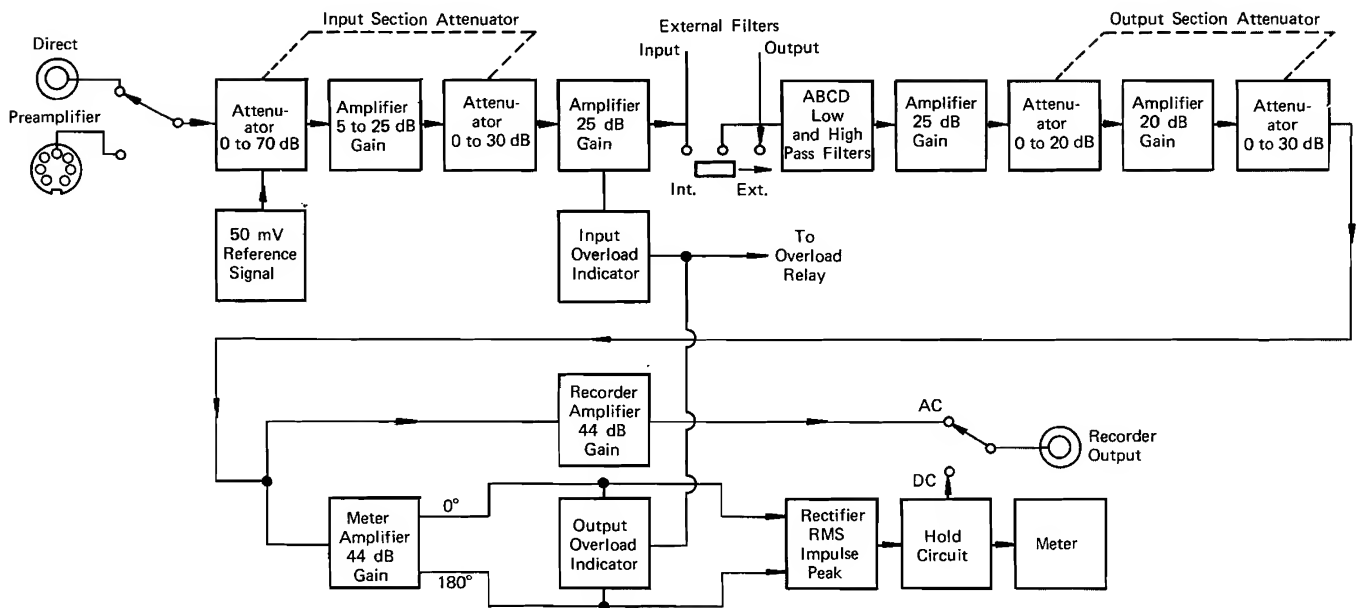

Fig.4.1. Block diagram of the 2606 Measuring Amplifier
- The measurement characteristics of the 2606 will be discussed with reference to the block diagram of the instrument shown in Fig.4.1.
In the 2606, the variable squaring characteristic is obtained by feeding back the voltage E on the averaging capacitor C_A to the squaring circuit. When the input signal voltage e (in the actual circuit e is the in-phase and 180° out of phase signal from the Meter Amplifier. See Fig.4.1), exceeds the level of the voltage on the averaging capacitor the